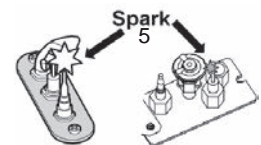

Fig 3
2. TO CLEAR ANY GAS, turn main valve off by pressing the button on remote handset (1). Wait five (5) minutes to clear out any gas, then smell for gas, including near the floor. If you smell gas, STOP! follow "B" in the safety information above on this label. If you don't smell gas, go to the next step.
3. AUTOMATIC IGNITION: MAN-knob (2) in ON position. Ensure Flame Adjustment knob (3) is set to lowest setting (Fig. 1). Locate the pilot (Fig. 3.) inside the firebox.
With the window off, locate the pilot (Fig. 3) inside the firebox. Set Flame Adjustment knob (3) to the lowest setting. Push down the metallic core (4) with a pen or similar instrument; this will establish the pilot gas flow. Light gas at the pilot (5) with a match.